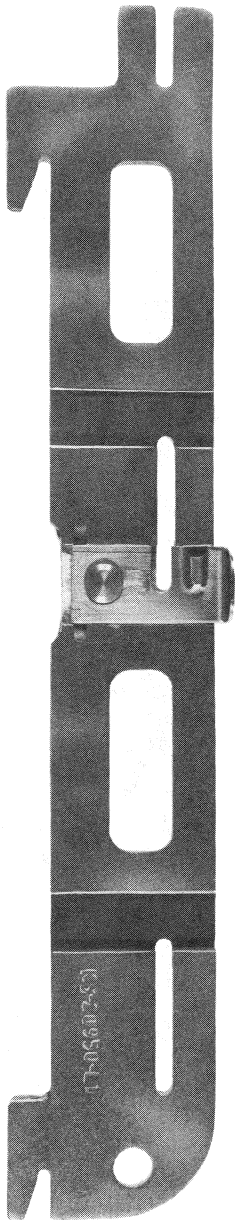

Fig. 33—KS-20950, List 2 Cover Parking Tool
- KS-20950, List 2 cover parking tool (Fig. 33)—1-type set only, refer to note under Table F.
2	For a 1-type set: Remove coin cover unit and hang it on a KS-20950, List 2 cover parking tool (Fig. 33). If parking tool is not available, or cannot be used with the station, disconnect P1, place coin cover unit on a firm level surface, and connect a P11C cord between P1 and J1 of coin chassis.